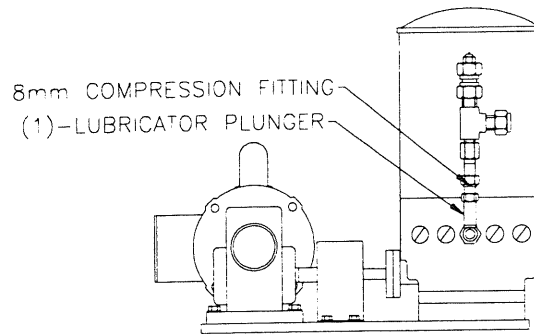

Figure D13
- a. Anchor the motorized grease lubricator, Figure D13.